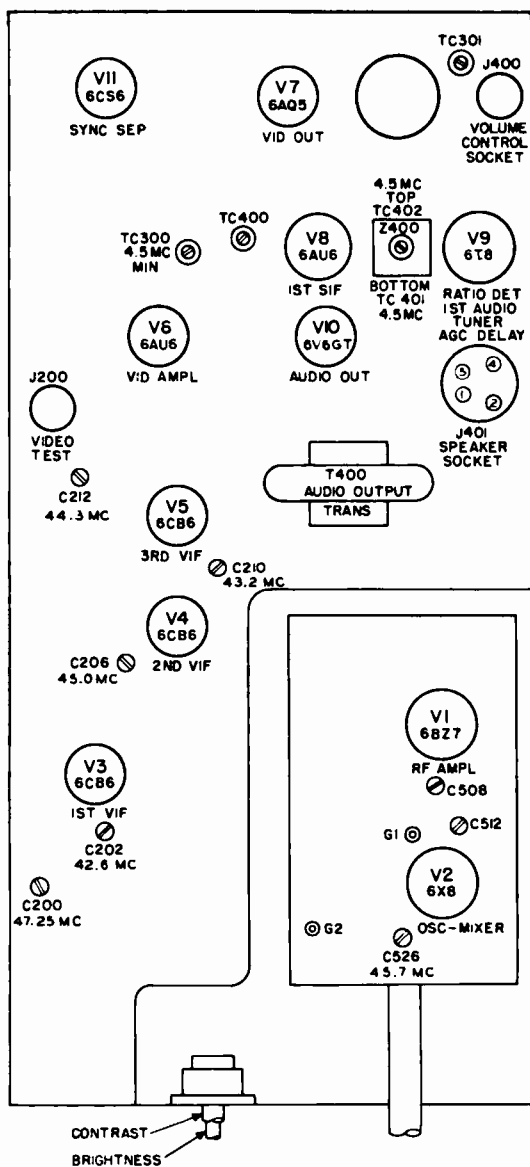

Figure 7. R-F Chassis R-191, Top View, Showing Locations of Adjustments
2. Tune the AM generator to 47.25 mc., and adjust C200 for minimum output, as observed on the oscilloscope. See figure 7.